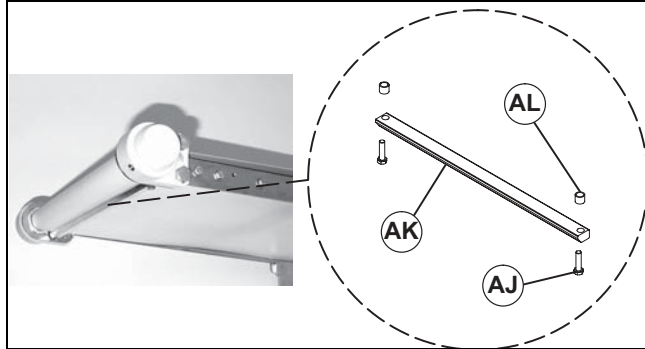

Figure 17
1. If installed, remove and retain two M5 hex head screws (Figure 17, item AJ), bottom wiper (AK) and two sleeves (AL).
8. If removed, install sleeves (Figure 17, item AL), bottom wiper(s) (AK) and M5 hex head screws (AJ). Tighten screws to 33 in-lb (3.7 Nm).
6. If removed, install sleeves (Figure 17, item AL), bottom wiper(s) (AK) and M5 hex head screws (AJ). Tighten screws to 33 in-lb (3.7 Nm).